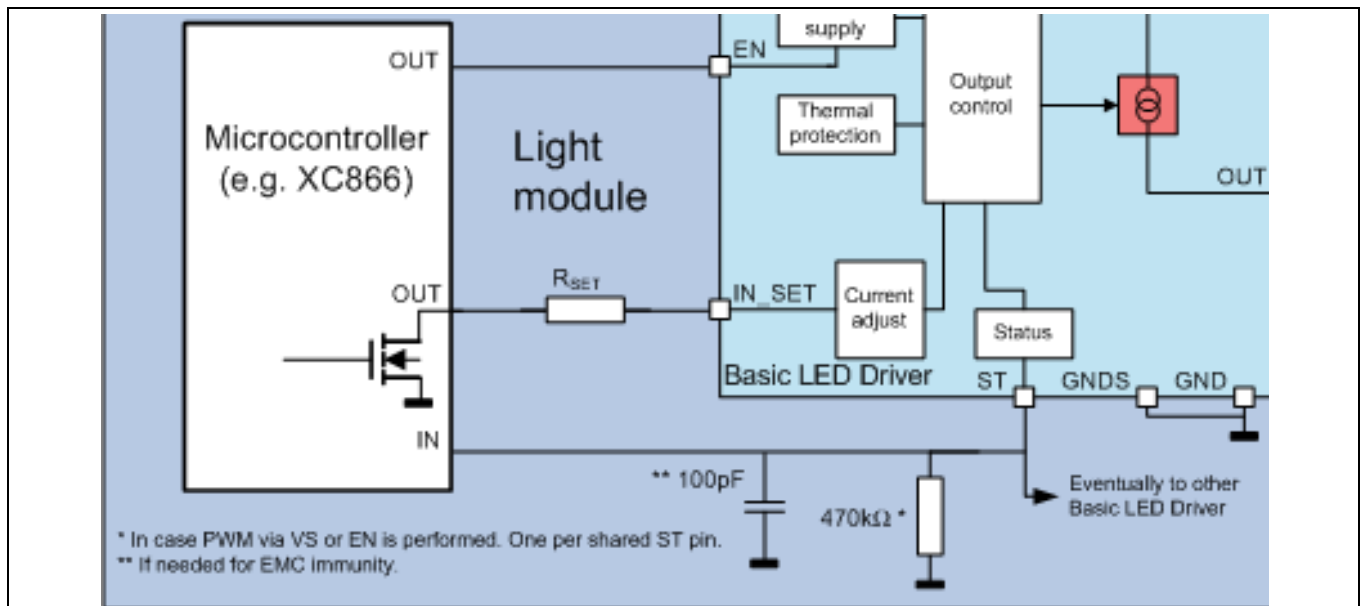

Figure 43 Open Load and Short Circuit Detection Application Circuit (ST pin diagnosis)
- Figure 43 shows a possible application circuit for diagnosing an OL or SC to ground fault. This example is for a device with an ST pin and an application which has a microcontroller available.